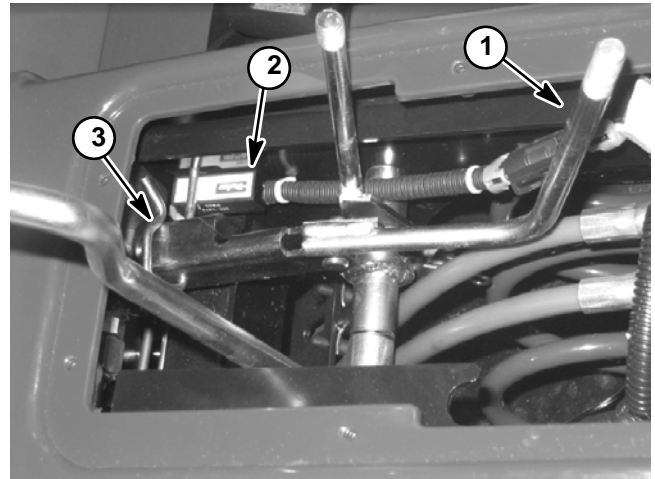

Figure 14
The lift lever interlock switch is a normally open proximity switch that is attached to the control lever support (Fig. 14). The interlock switch is in its normal open position whenever the hydraulic lift lever is moved away from the neutral position. When the lift lever is in the neutral position, the retainer pin that attaches the lift lever link to the lift valve is positioned close to the interlock switch causing the switch to close. The closed bed lift switch is used in the starting interlock system to make sure that the hydraulic lift circuit is disengaged during engine starting.
3. Locate the lift lever interlock switch (Fig. 14).
5. With the use of a multimeter (ohms setting), test for continuity across the two (2) switch terminals. There **should be** continuity (zero ohms) when the lift lever is in the neutral position and there **should not be** continuity (infinite ohms) when the lift lever is out of the neutral position.